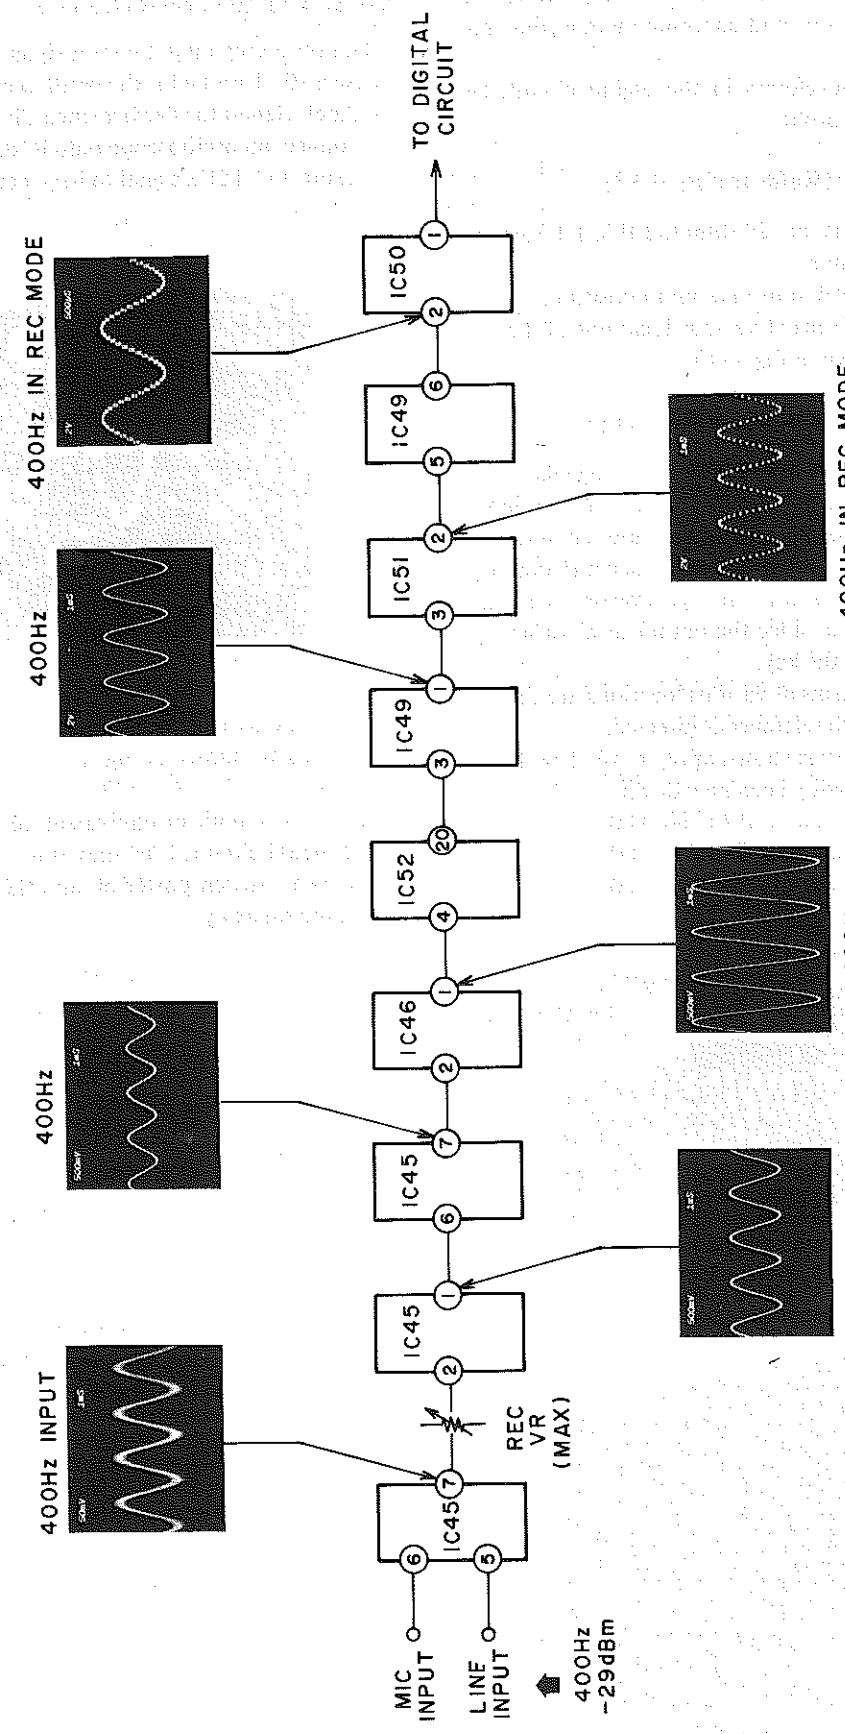

Fig. 4-13 Input Waveform of Input Diagram
##### 4-7-1. Input Circuit (Refer to Fig. 4-13)
- 3) The voltage waveforms at various locations of the input circuit are shown in Fig. 4-13.